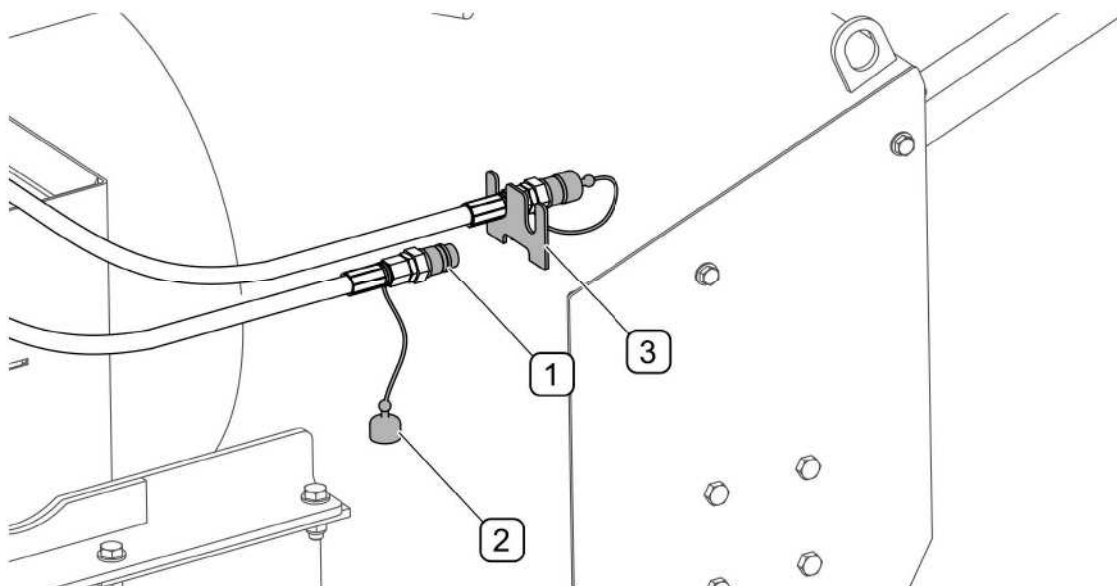

FIG. 4.9 Protect hydraulic conduit connectors
- Disconnect hydraulic conduits of discharge chute rotation mechanism and place them in special brackets on the snow blower chassis (FIG. 4.9)